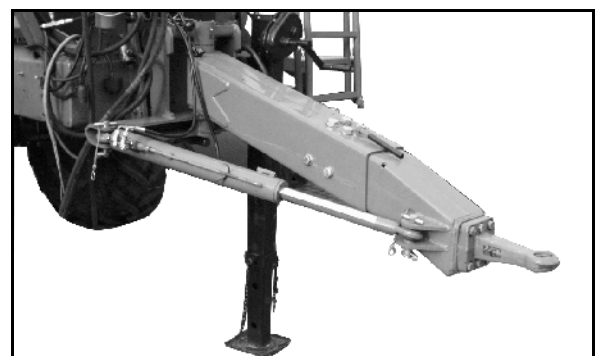

Fig. 25
- Trail-Tron track follow drawbar (Fig. 25)